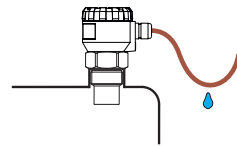

Fig. 10: Prevention to avoid intrusion of humidity
- It is suitable to run the cable under a cable bushing (obliquely down in slack) according to Fig. 10 to prevent **penetration of humidity**. Then the rain and condensing water can flow off freely.